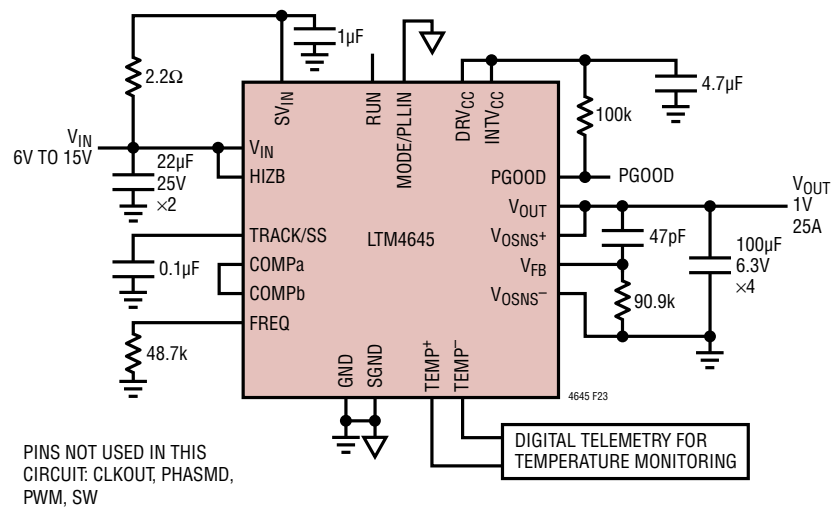

Figure 23. Typical 6V to 15V Input 1.0V at 25A Output Design
**Table 5. Output Voltage Response vs Component Matrix (Refer to Figure 23) 0A to 7A Load Step Typical Measured Values**